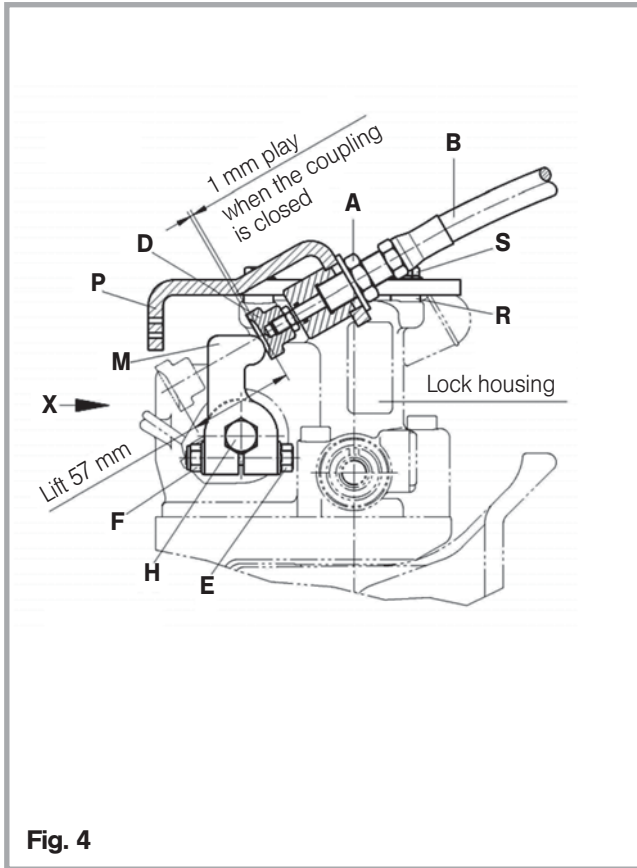

Fig. 4
- Coupling closed; fit the catch (M) (angle ca. 90°, see Fig. 4). Slide the catch M far enough along the hex shaft that the flange hex bolt E and the locking nut F can be fitted; **tightening torque 27 Nm**.
- Lay the Bowden cable B as shown in Fig. 1. Turn back the hex nut A with the washer on the threaded piece on the end of the Bowden cable, then slide the Bowden cable from the side into the bracket P as shown in Fig. 4 and tighten to **130 Nm** with the hex nut A.
- Re-lubricate the Bowden cable **at least every six months** at lubrication point **(SN)** (see Fig. 5) and check the play between **M** and **D** (see Fig. 4)